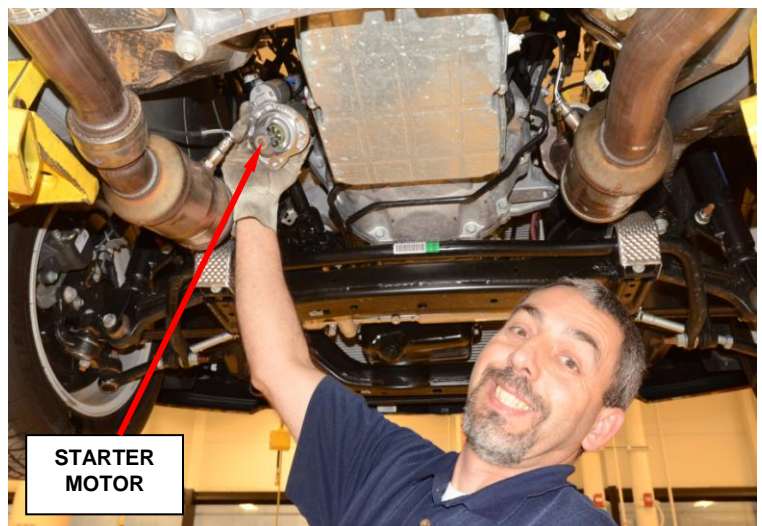

Figure 23 – Starter Removal
14. Remove and save the starter motor (Figure 23).